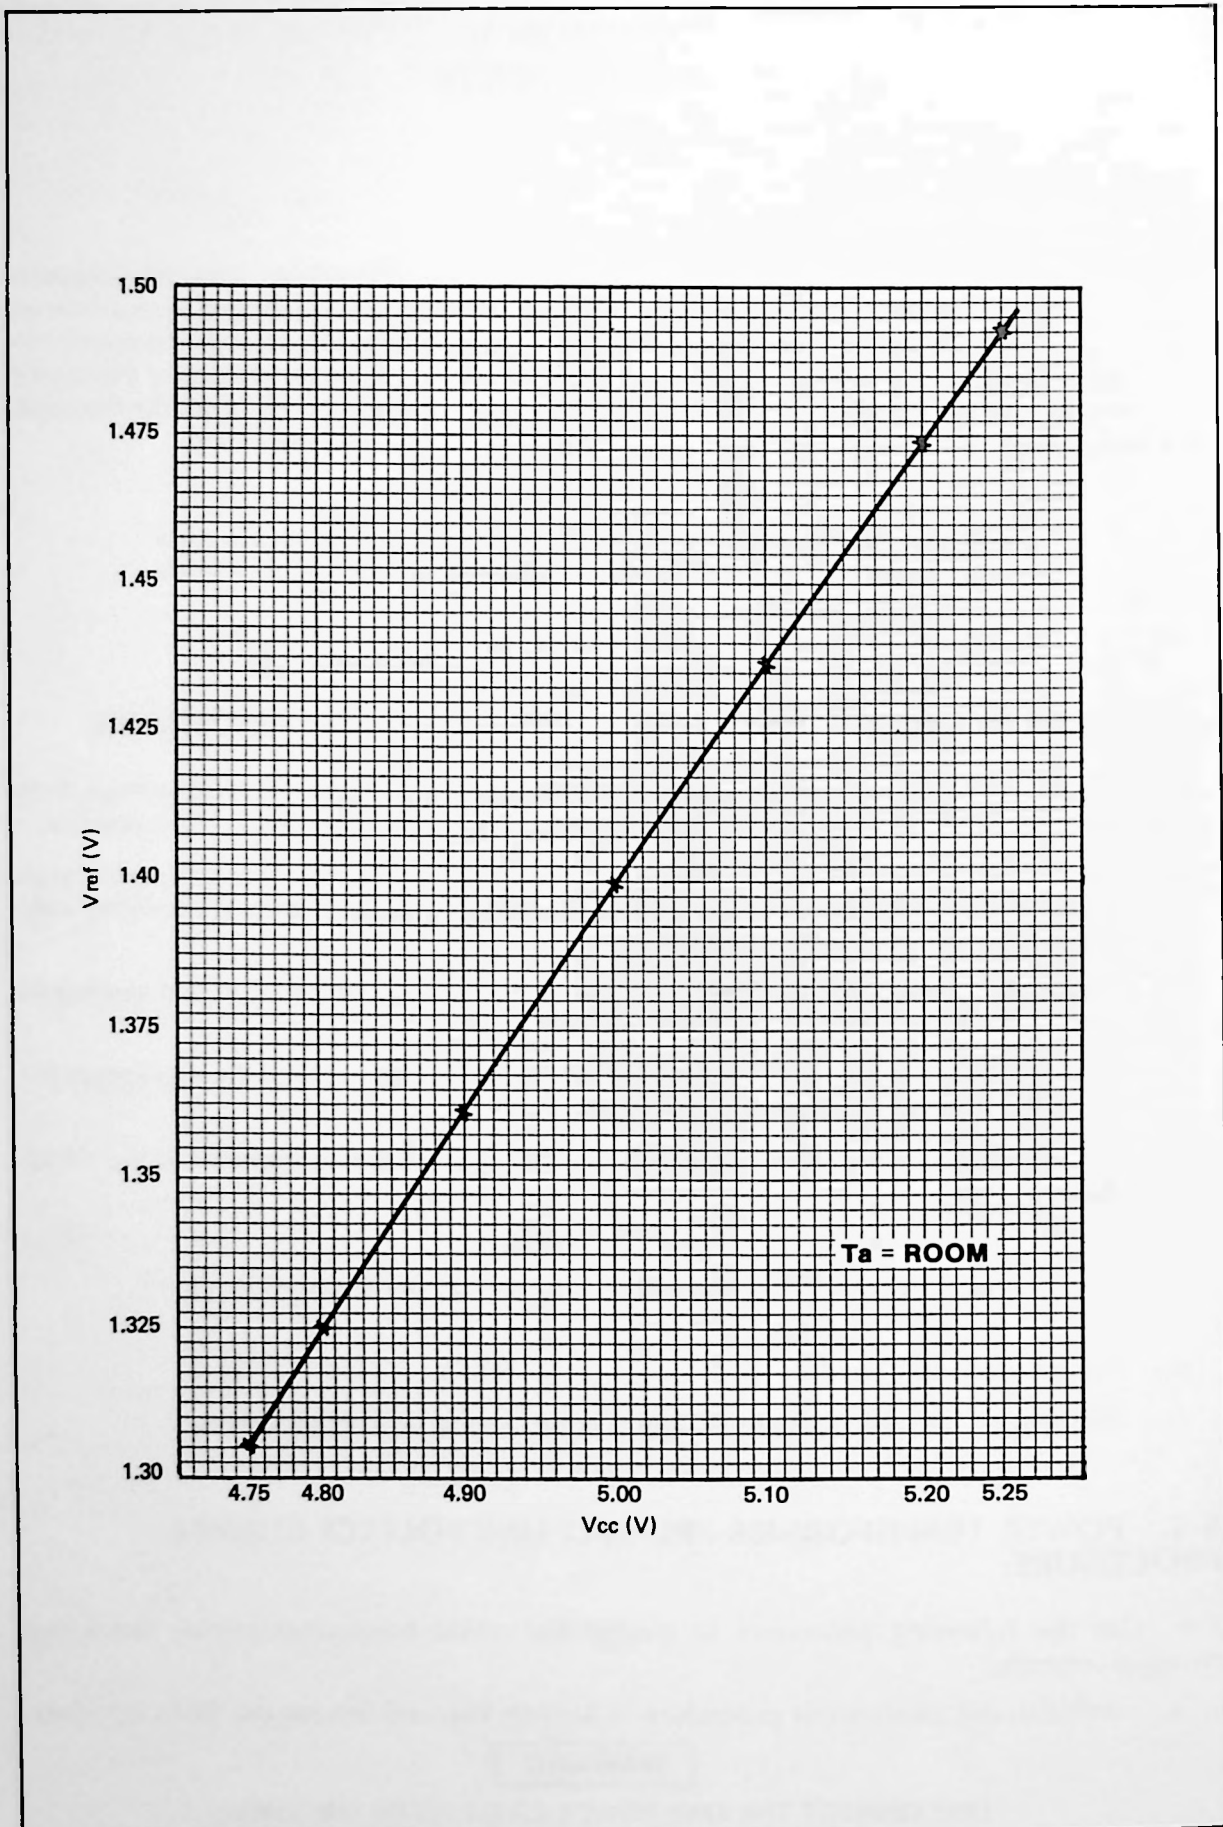

Figure 5-1. Data Probe V_{CC}—V_{ref} Graph
- c. Connect the positive test lead to U1(5). Compare this voltage with the V_{Ref} voltage corresponding to the V_{CC} (step b) on *Figure 5-1*.
Figure 5-1 is a graph relating the U1 pin 5 voltage to U1 pin 7 voltage.